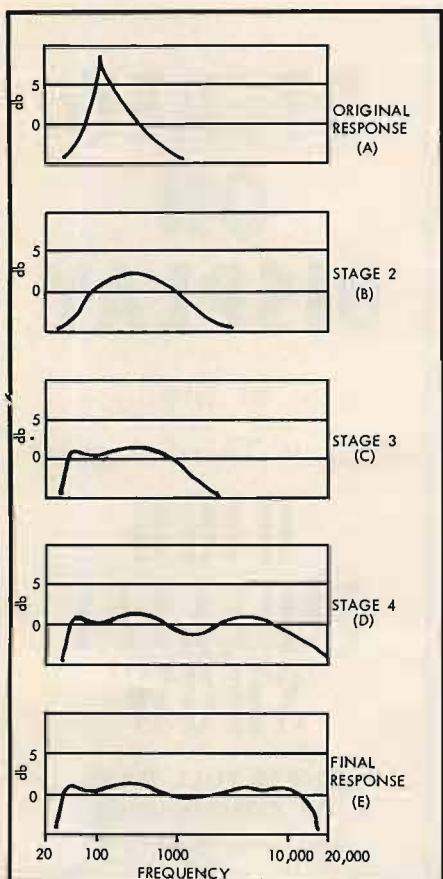
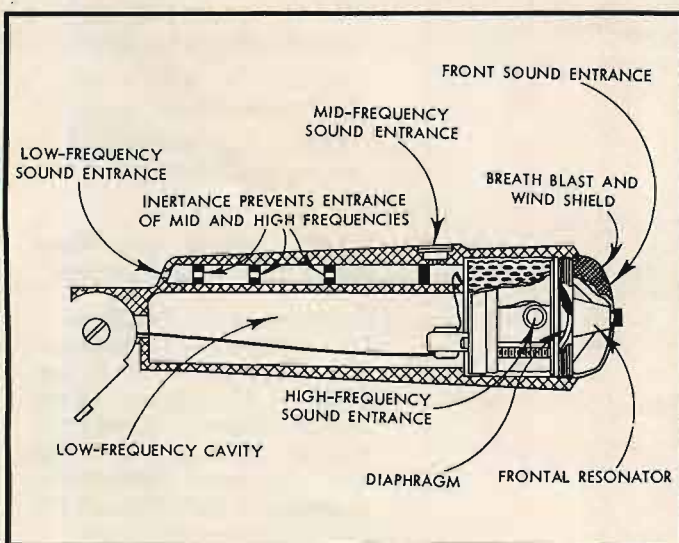

Fig. 6. Stages in smoothing and broadening the response of a commercial dynamic microphone.
Fig. 7. Construction of a high-quality dynamic microphone.
of mechanical-acoustic principles to smooth and extend the frequency response of the basic mechanism. Damping and resonating devices in the form of felt, tubes, air chambers and cavities, shape of the housing, and so on are combined to produce the desired frequency response. *Figure 6* presents a series of curves showing how the initial response of an elementary dynamic microphone (A) was gradually smoothed and broadened by the successive addition of several mechanical-acoustic devices, culminating in a microphone of very high quality. *Figure 7* is a drawing of another high-quality microphone, suggestive of its design complexity; note, for example, the three different entrances for low, middle, and high frequencies.